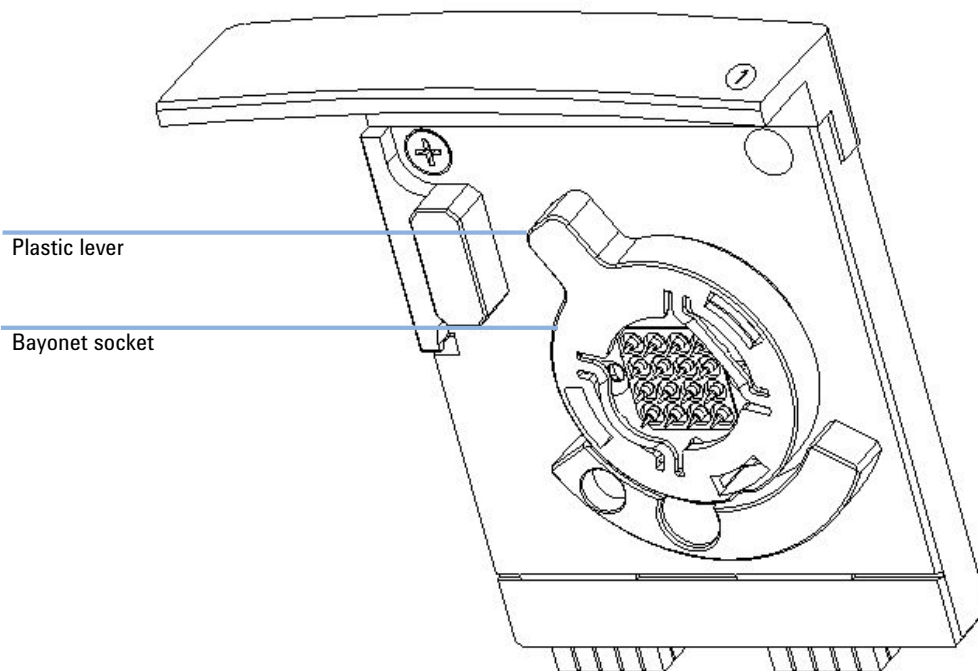

Figure 2 Bayonet socket of the electrode pin set
- 4 Open the bayonet socket of the pin set by turning the plastic lever to the left, see Figure 2 on page 123.
- 11 Lock the pin set to the electrode base by turning the plastic lever of the bayonet cover to the right, see Figure 2 on page 123.